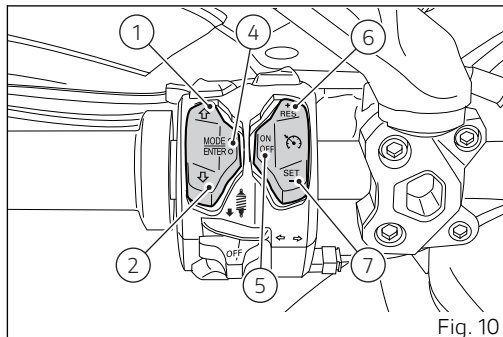

Fig. 10
6) BOUTON CRUISE CONTROL – RES (Resume) / + (more) (Fig. 10)
7) BOUTON CRUISE CONTROL – SET (Setup) / - (less) (Fig. 10)